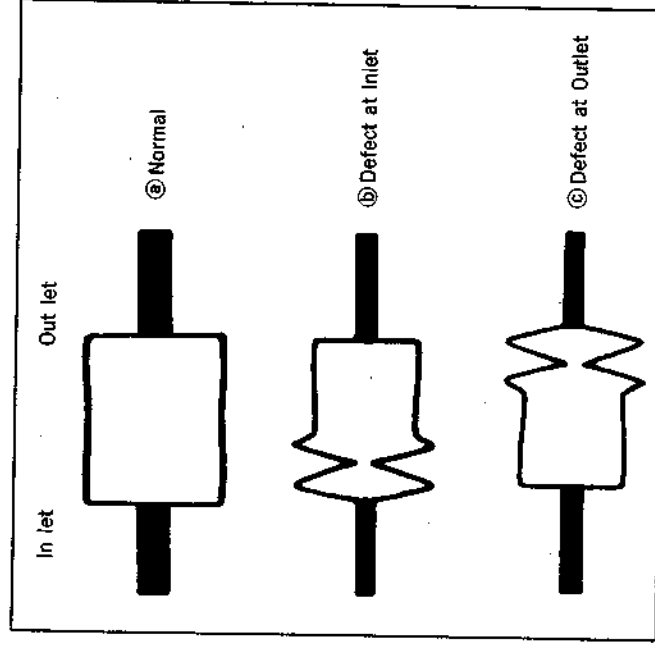

Fig. 36
- 5) Check that a RF waveform is flat at the inlet and outlet of the oscilloscope (Fig. 36 ㉑).